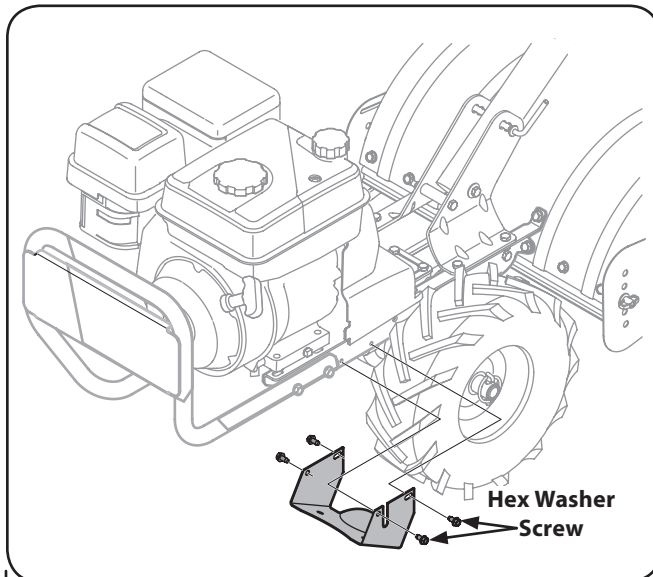

Figure 7-2
3. Remove the four ¼-20 hex washer screws that secure the pulley shield to the frame as seen in Fig. 7-2, and remove the pulley shield and set aside in a safe location until reinstallation.